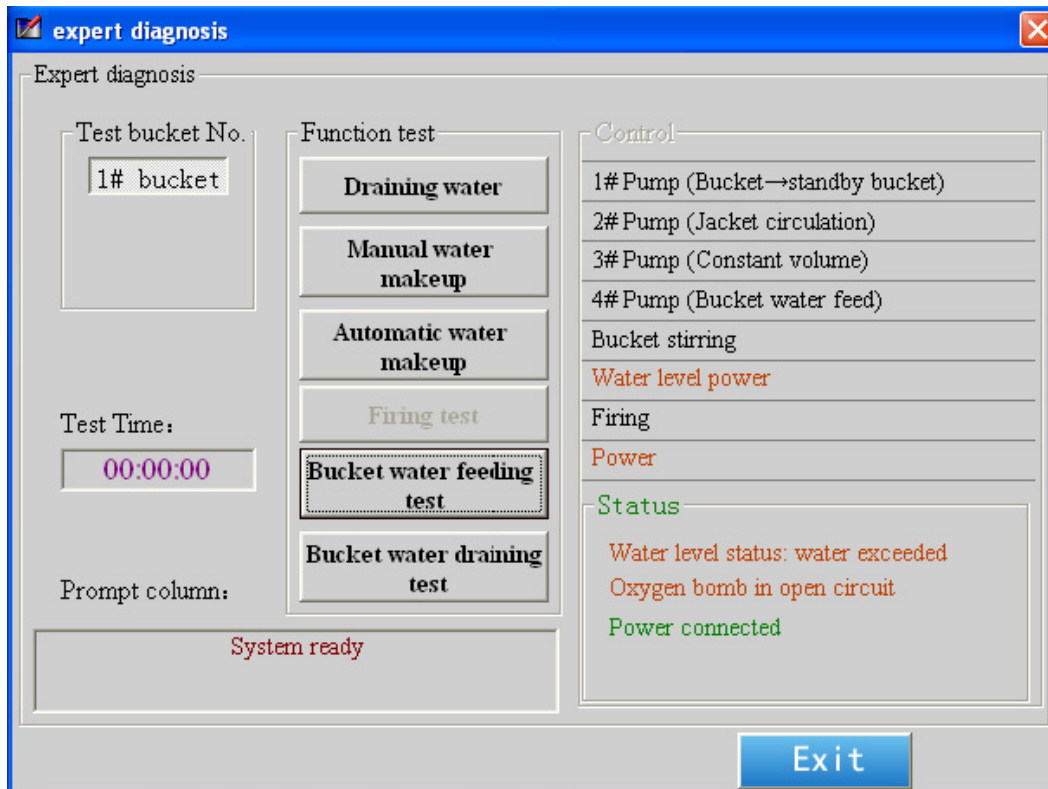

Fig.4-6
**2. Expert diagnosis** (shown as Fig. 4-6 Expert Diagnosis)
The expert diagnosis (shown as Fig. 4-6) is specially designed for the hardware test of CALO-40 calorimeter. It can carry out independent tests for each function of instruments, display test time, and prompt users to maintain in time.